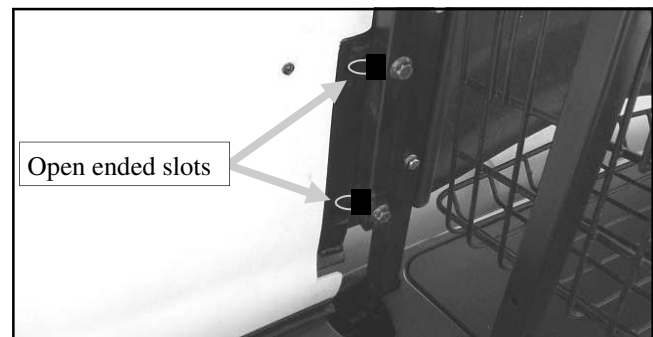

Fig. 2.3 (view from left side)
2.3 Per fig. 2.3, position the lower rear portion of the side frame assembly so the open ended slots line up and go into the 1/4" gap behind the seat as shown. Note: for additional clarity, the slots are highlighted in grey scale in fig. 2.3.